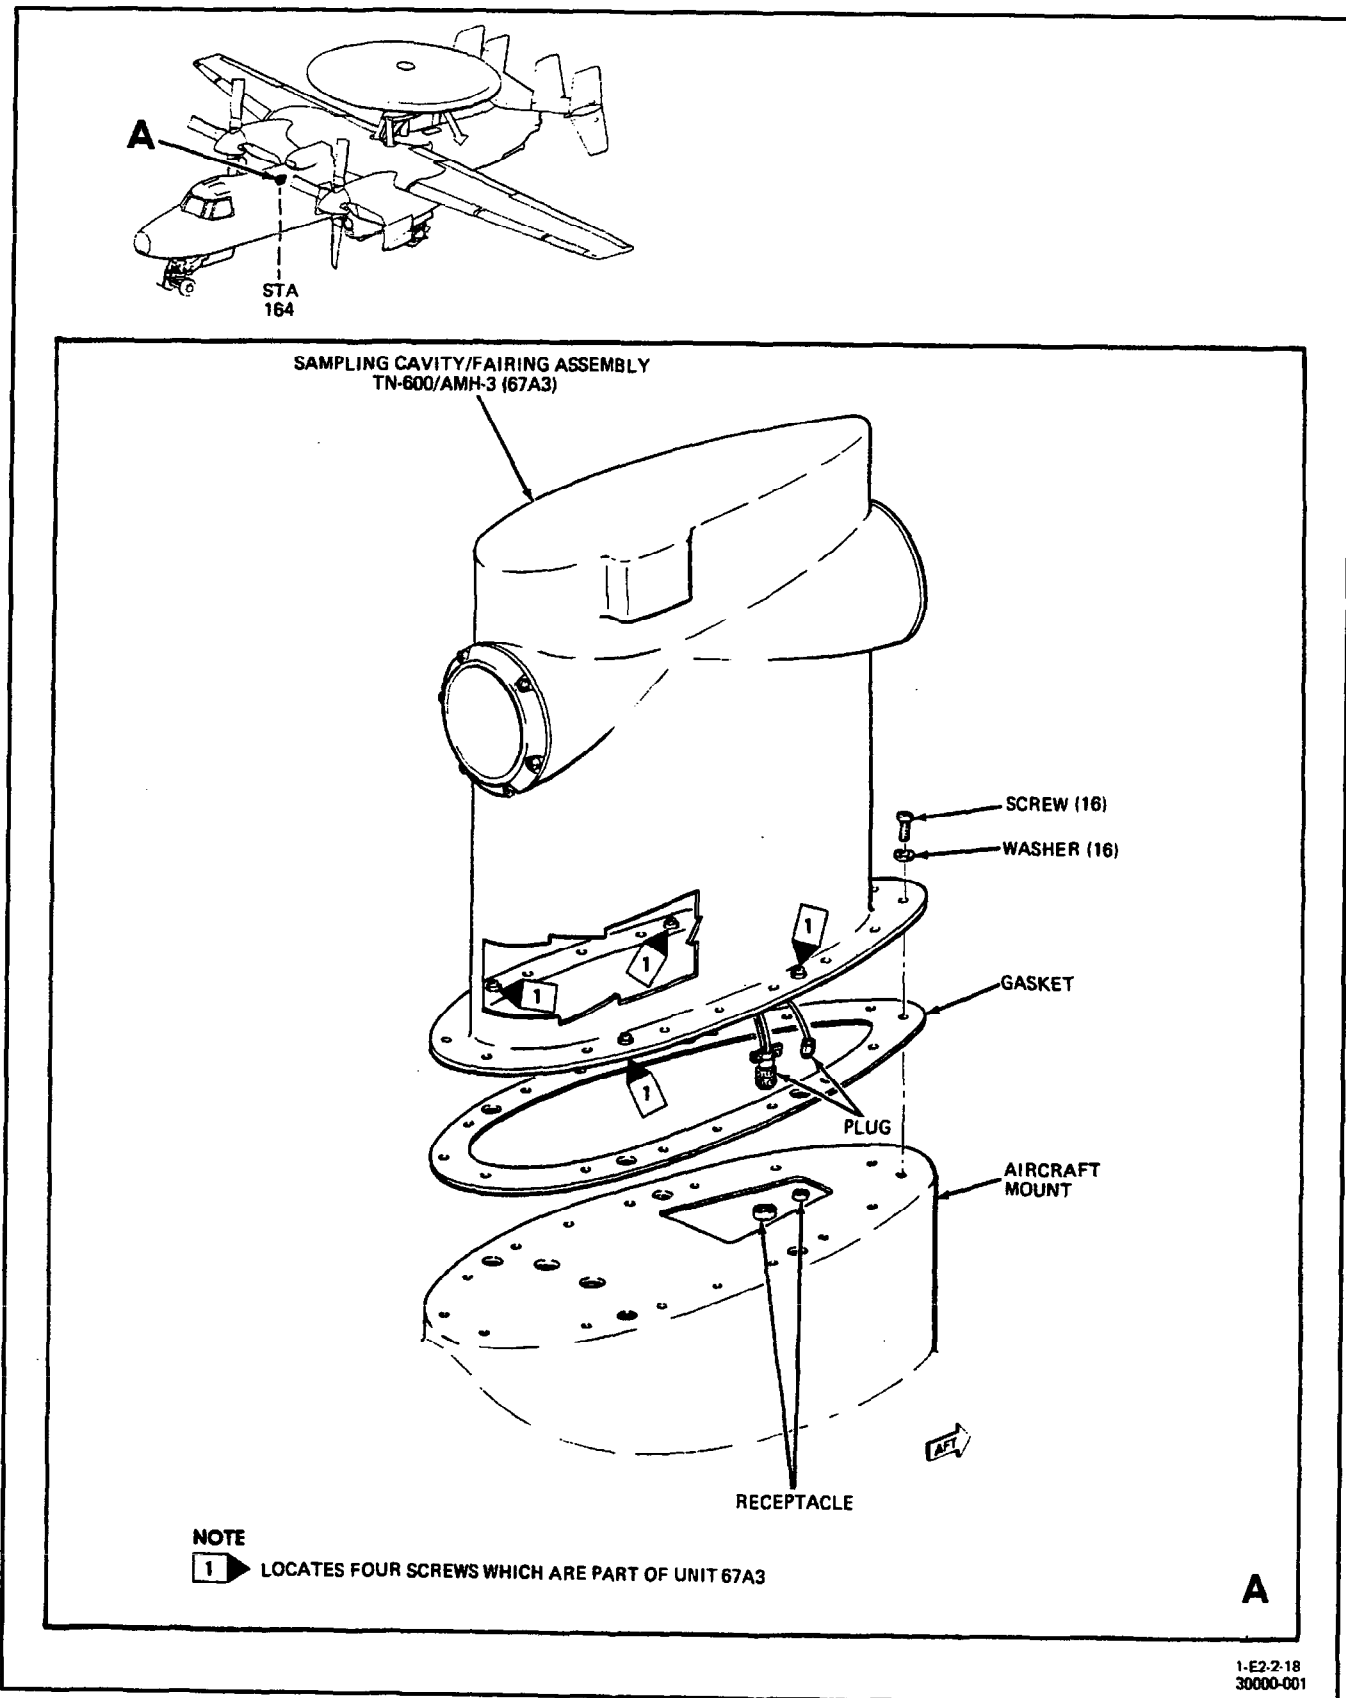

Figure 1. Removal and Installation of Sampling Cavity/Fairing Assembly TN-600/AMH-3
2. The Sampling Cavity/Fairing Assembly TN-600/AMH-3 (hereinafter referred to as the refractometer) (67A3) is part of the Airborne Microwave Refractometer AN/AMH-3 system. The refractometer is located on the top left side of the aircraft. (See figure 1.)
**3. REMOVAL.** (Figure 1.)
Do not remove four screws (noted in figure 1) which are part of refractometer.
4. **INSTALLATION.** (Figure 1.)